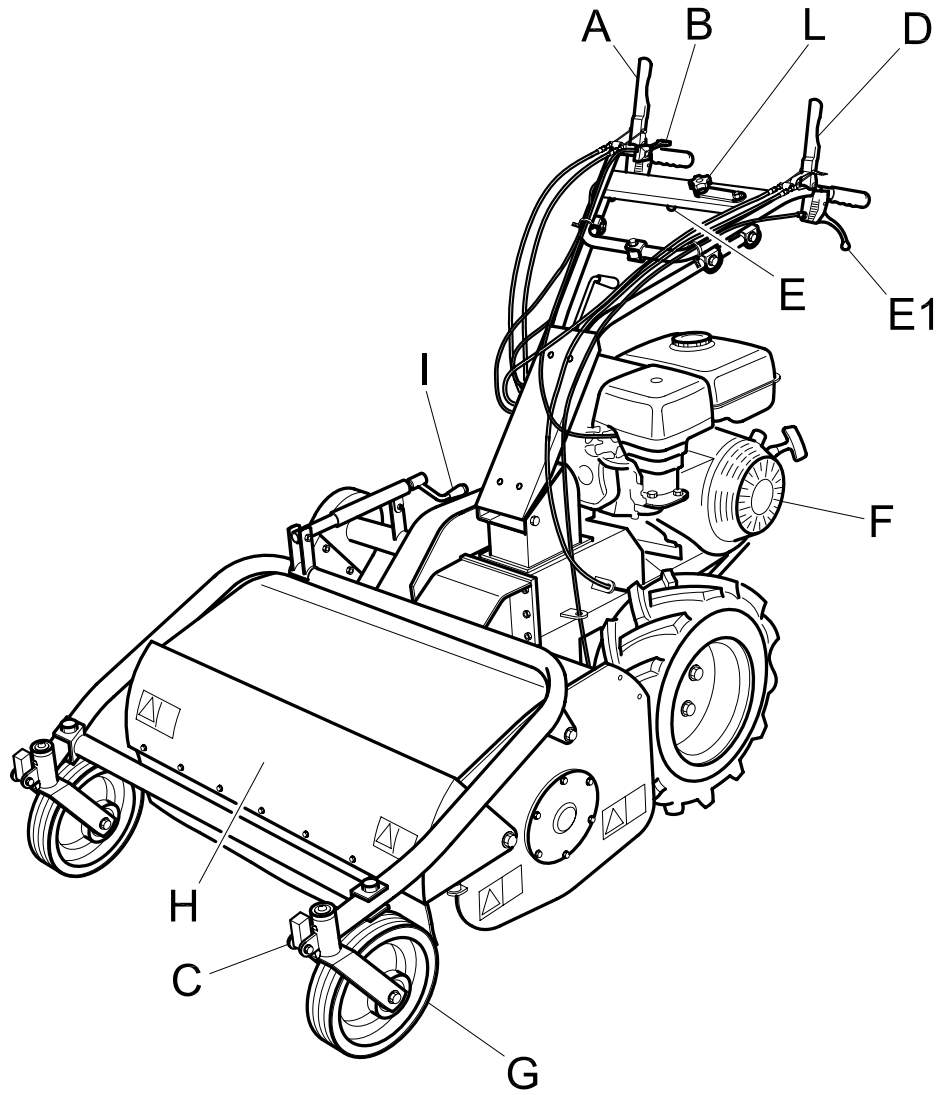
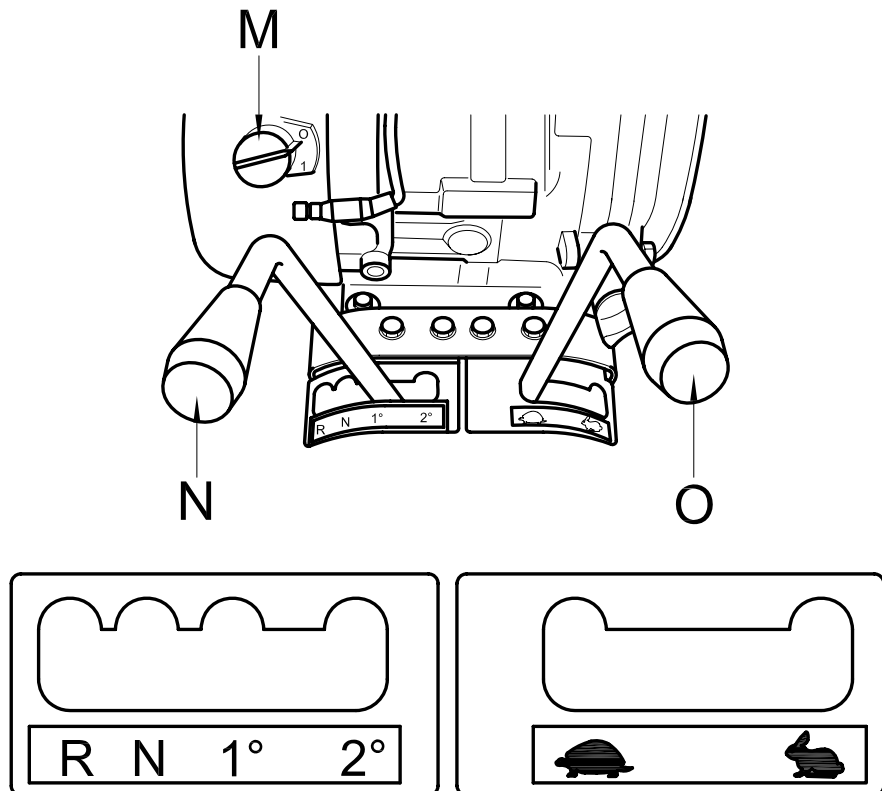

Figure 1
Figure 2
The front guard (Fig. 1 Ref. H) opens or closes automatically according to the amount of grass to be cut. Use of the machine with the guard left open is strictly prohibited. This may cause the outward projection of objects.
This handle is used to select the speed of the machine (slow/fast). Used in conjunction with the gear selector handle (Fig. 2 Ref. N) it offers 4 forward gears and 2 reverse gears.
Before operating the slow/fast speed handle (Fig. 2 Ref. O), the gear selector handle (Fig. 2 Ref. N) should be put into neutral gear (N). Then select the desired gear.
WHEN WORKING ON GRADIENTS ONLY USE THE SLOW SPEED BY KEEPING THE SLOW/FAST CONTROL HANDLE IN THE „SLOW” POSITION (Fig. 2)
Be sure to set the handle positions correctly (Fig. 2 Ref. N and O), making sure that the handles are correctly engaged; if they are not, engage the forward clutch lever momentarily (Fig. 1 Ref. A) so that the speed setting engages correctly. The above operation may prove particularly useful during the machine's first working hours.
- Before switching on the engine make sure that both engagement levers (forward clutch control lever - Fig. 1 Ref. A and flail clutch control lever - Fig. 1 Ref. D) are in the disengaged position (released); the service brake will be on automatically; then place the gear handle in neutral (see Fig. 2 Ref. N)
- The guard in front of the flails (Fig. 1 Ref. H) must always be closed while the machine is in use.